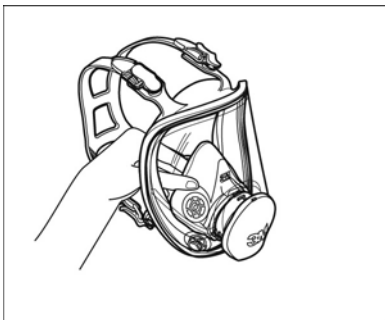

Fig. 1
1. Remove nose cup assembly from inside facepiece. (Fig. 1)